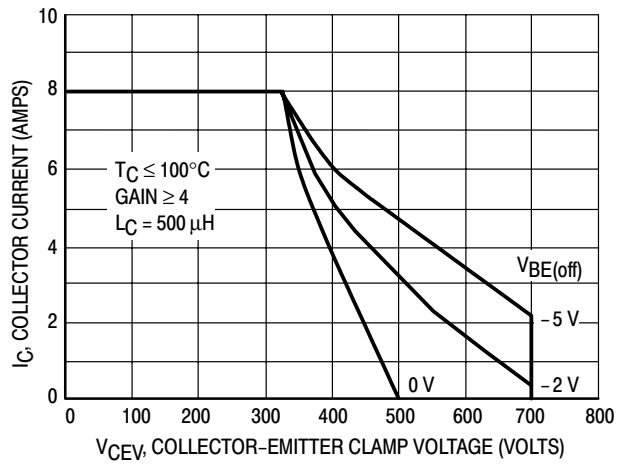

Figure 7. Maximum Reverse Bias Switching Safe Operating Area
Use of reverse biased safe operating area data (Figure 7) is discussed in the applications information section.
For inductive loads, high voltage and current must be sustained simultaneously during turn-off, in most cases, with the base to emitter junction reverse biased. Under these conditions the collector voltage must be held to a safe level at or below a specific value of collector current. This can be accomplished by several means such as active clamping, RC snubbing, load line shaping, etc. The safe level for these devices is specified as a Reverse Bias Safe Operating Area (Figure 7) which represents voltage-current conditions that can be sustained during reverse biased turn-off. This rating is verified under clamped conditions so that the device is never subjected to an avalanche mode.
5. The base drive conditions are within the specified limits shown on the Reverse Bias SOA curve (Figure 7).